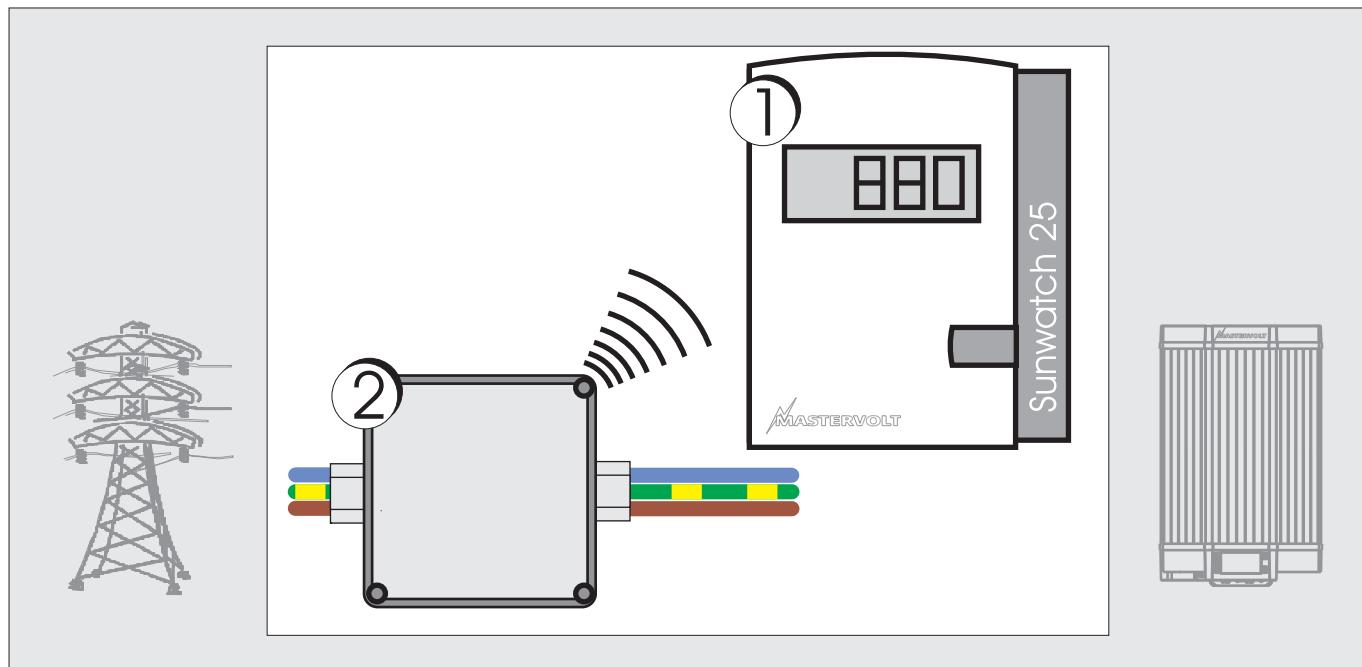

Figure 1: Wireless communication
The SunWatch features wireless communication, see figure 1. The measuring device (2) sends all values to the display (1).